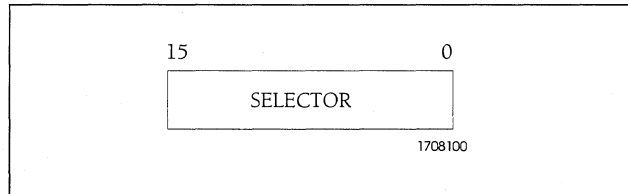

Figure 2-10. Task Register
The **Task Register** (TR) holds a 16-bit selector for the current **Task State Segment** (TSS) table as shown in Figure 2-10. The TR is loaded and